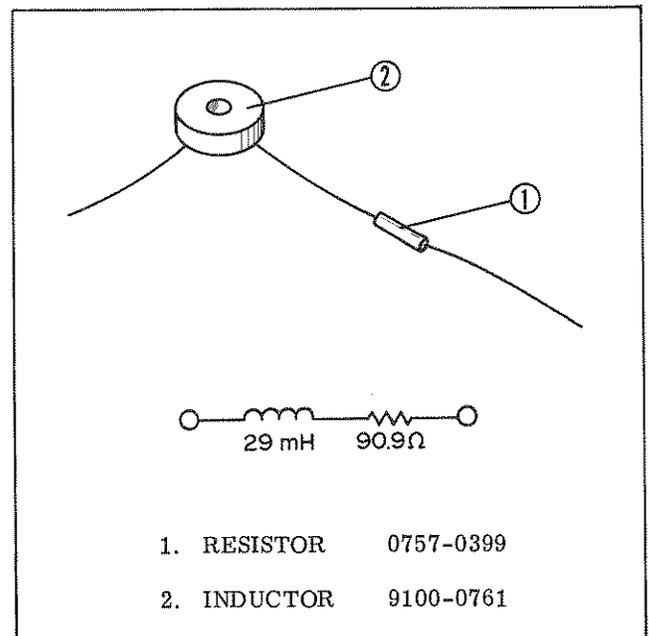

Figure 5-3. (90 Ω + j180 Ω) Impedance
- e. Set the range to 100Ω and measure an impedance of $(R + j\omega L)$ as shown in Figure 5-3, where R should be calibrated by DC bridge and the reactance value twice that of R.